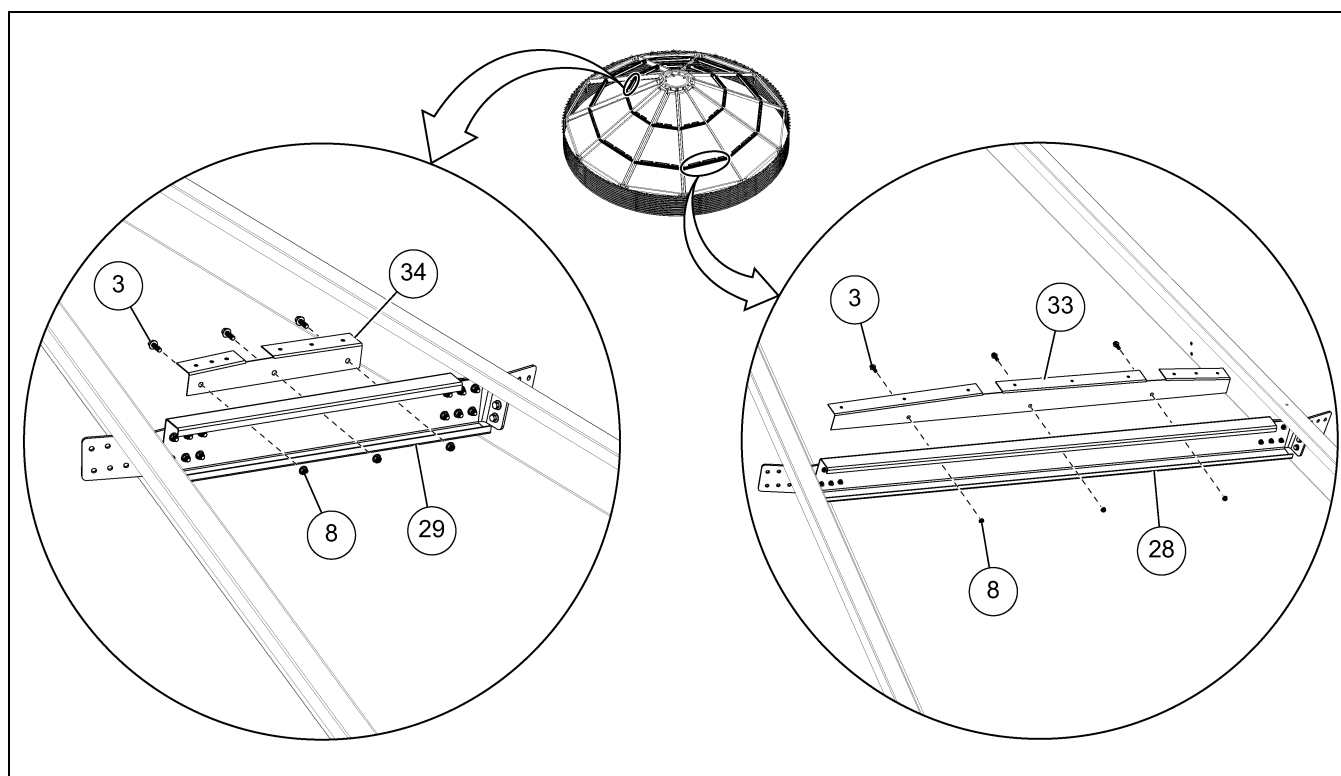

Figure 4P Installing the Roof Panel Support Clips to the Purlins
2. Install the roof panel support clip (34) to the outer surface of the upper purlin (29) using 7/16" x 1-1/4" flange bolts (3) and 7/16" flange nuts (8). (See Figure 4P.)